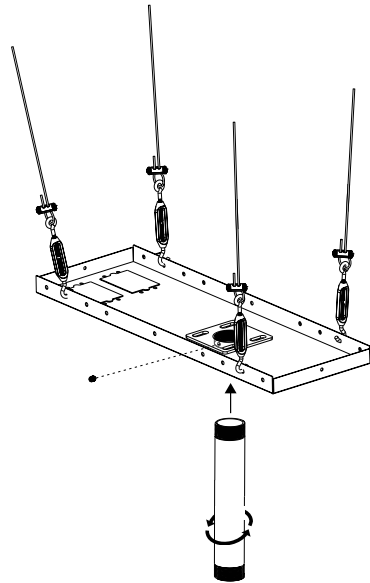

Fig 7
- From the bottom up, thread Extension Column (not included) up through Retaining Collar in Adjustable Collar Mount Plate. Fasten with a Set Screw using the Allen Wrench (Fig 7).